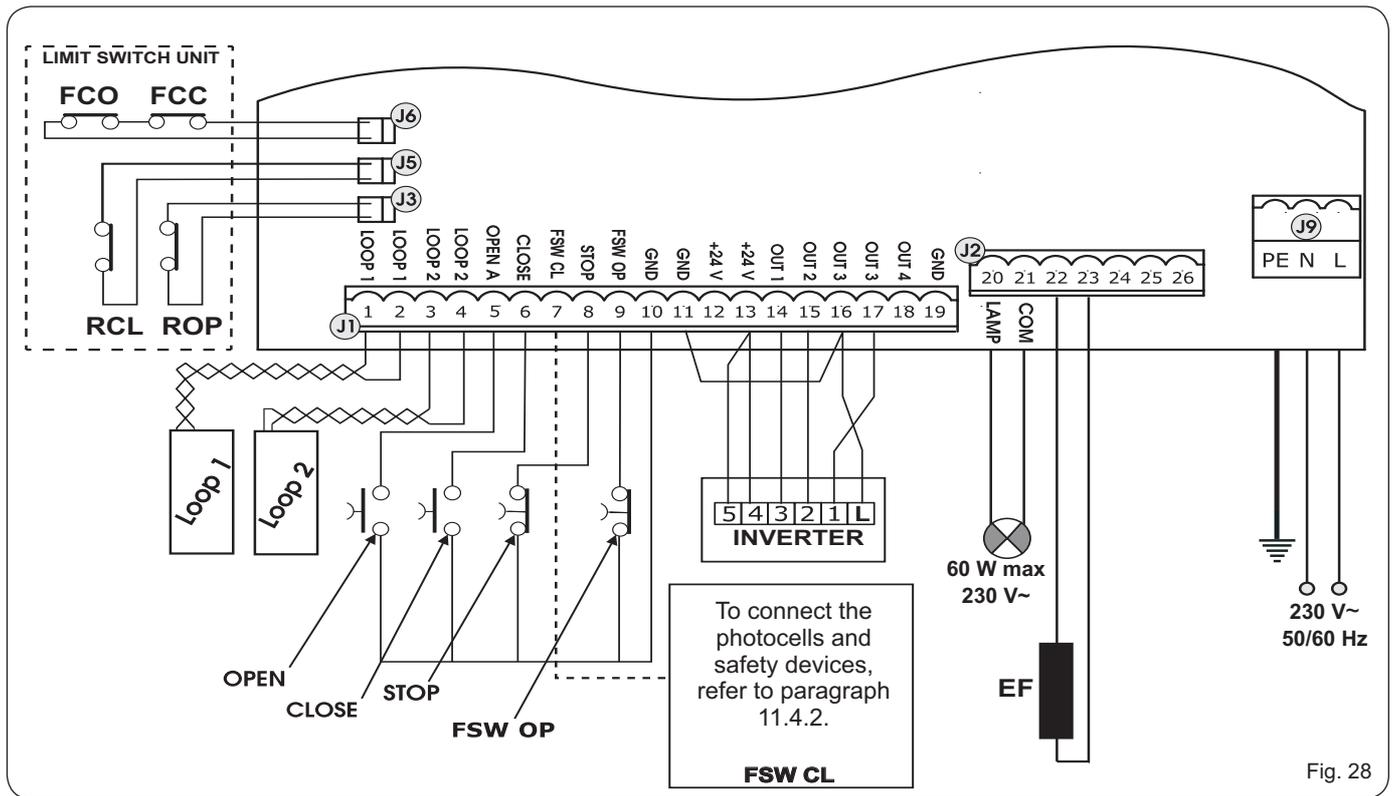

Fig. 28
- Connect the earthing cable to the corresponding terminal on connector J9 of the equipment (see fig.28).
11.4.1 TERMINAL BOARD J1 - ACCESSORIES (FIG. 28)
To avoid compromising correct system operation, do not exceed the power indicated in fig. 28.
11.4.4 TERMINAL BOARD J2, FLASHING LAMP (FIG.28)
11.4.6 CONNECTORS J3, J5 - RAPID CONNECTION OPENING AND CLOSING LIMIT SWITCHES (FIG. 28)